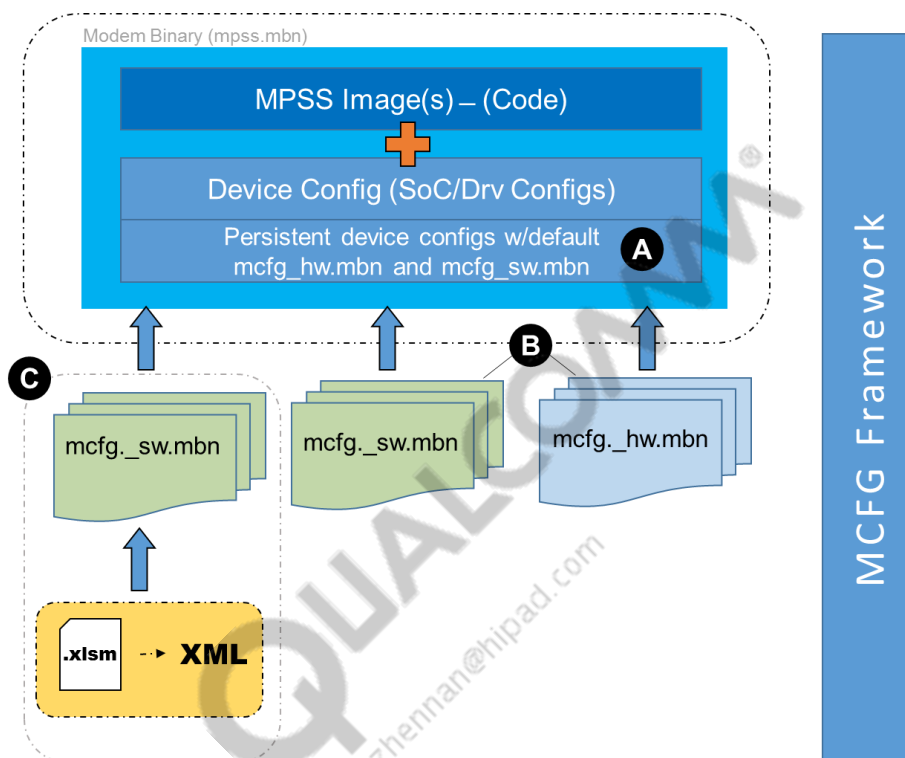

Figure 2-1 MCFG framework feature concept
Figure 2-1 explains how the MCFG framework provides and uses the default (A), sample (B), and OEM-generated MBNs (C).